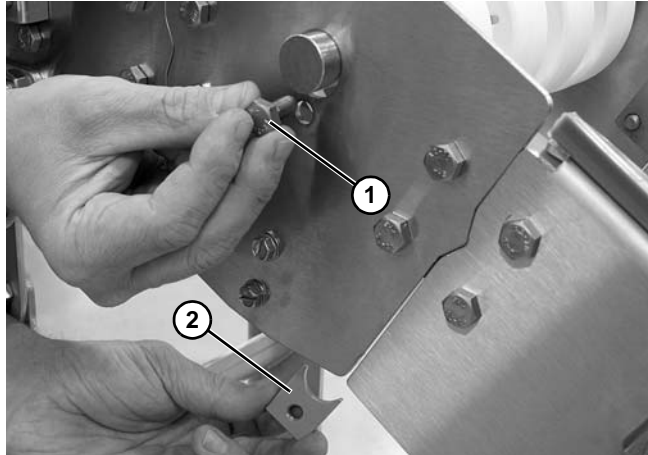

Figure 76
2. Remove screw (Figure 76, item 1) and shaft retainer (Figure 76, item 2) from each side of the conveyor.